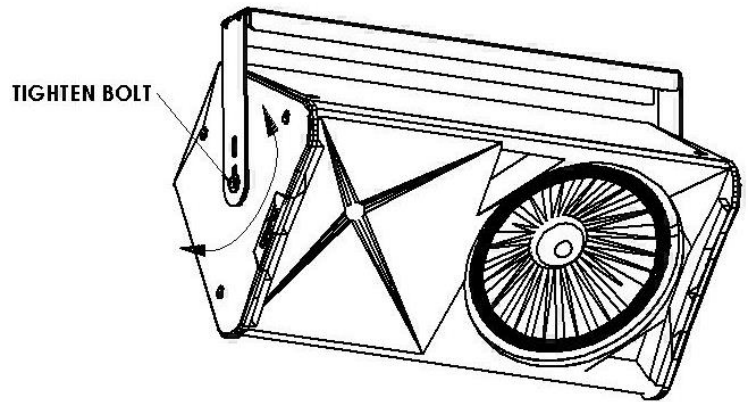

Figure 2
**Step 4:** Rotate the loudspeaker into the desired direction then tighten the side bolts permanently (Figure 2).